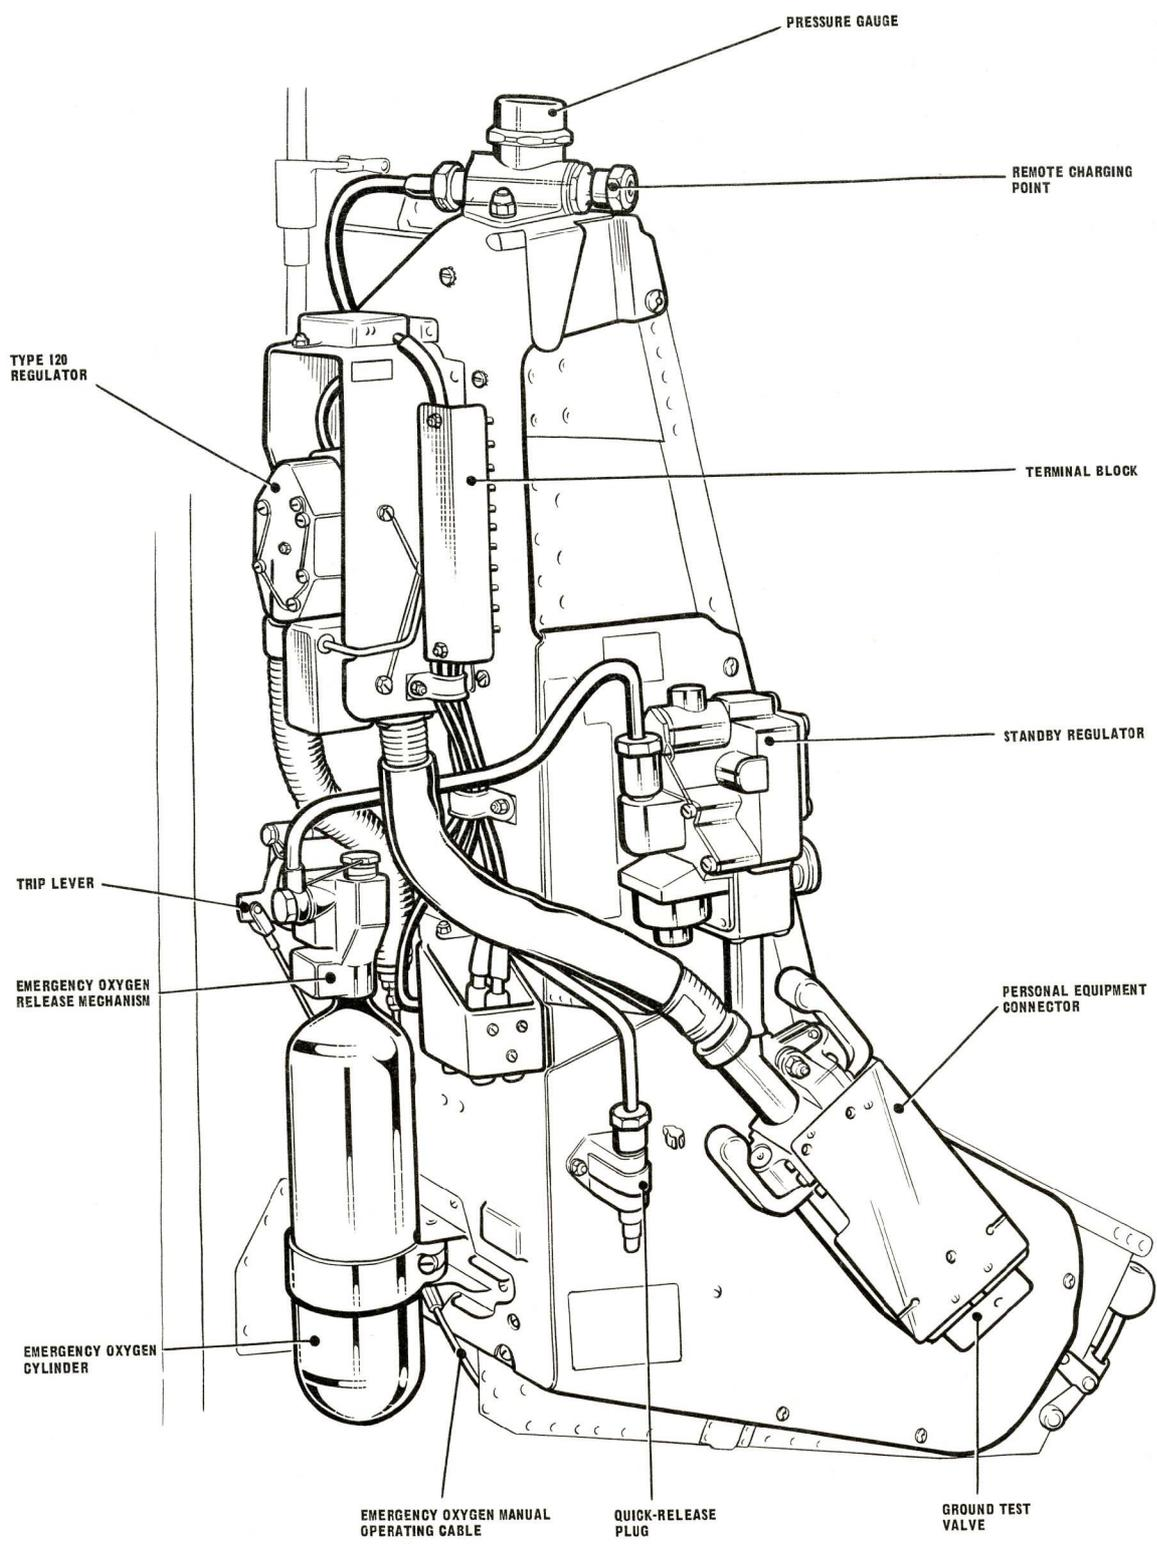

Fig. 1. Demand emergency oxygen system assembly
15. The following procedure is to be followed when equipping the seat, refer to figs. 1 to 7
- (1) The emergency oxygen system (*fig. 1*) must be fitted in accordance with A.P.4288D, Vol. 5, before the seat is installed in the aircraft.
- (2) Ensure that the safety pin has been